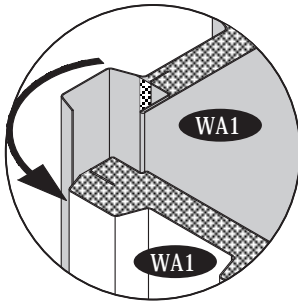

Fig.1
9. Insert the wall panel (WA1) into the base 'U' channel (BC2C) as follow in fig.1,2,3&4.